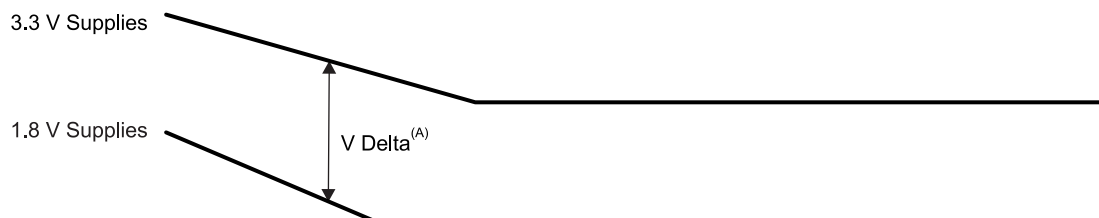

Figure 8-3. 1.8 V Supplies Falling Before 3.3 V Supplies Delta
(1) The 1.5-/1.8-V DVDD_DDR[x] and CVDD, CVDD_x variable supplies can be powered down prior to or simultaneously with the 1.8-V supplies.
(2) The 3.3 V supplies **must** never be more than 2 V above the 1.8 V supplies (see Figure 8-3).